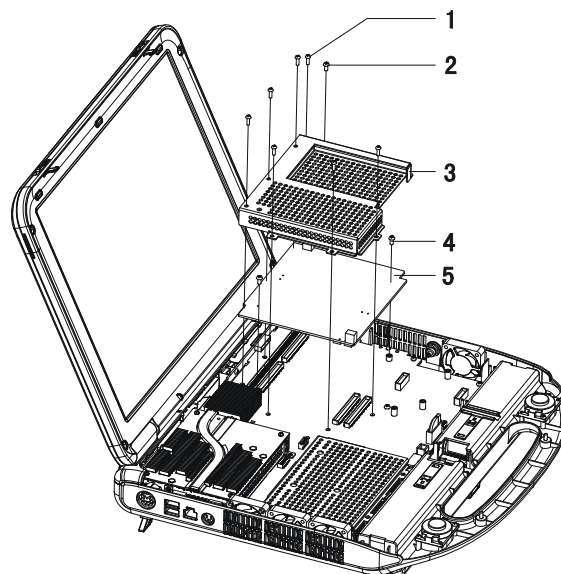

Figure 4-29 Removing Transmission Board
- 3) As shown in Figure 4-29, remove seven M2.5×8 Philips panhead screws and one M3×6 Philips panhead screw;